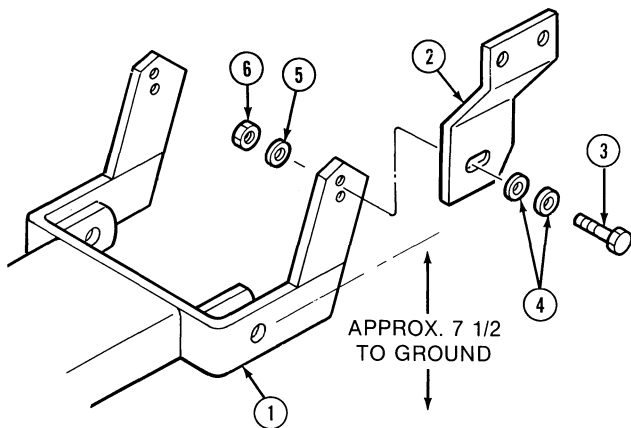

Figure 4
- Attach the rear frame, (1), to the front mounting bracket, (2), using two 1/2" NF x 1-3/4" hex hd. bolts, (3), lockwashers, (5), nuts, (6), and four flat washers, (4), as shown in Figure 4. Do not tighten the bolts at this time. Use two flat washers over each slotted hole, as shown.